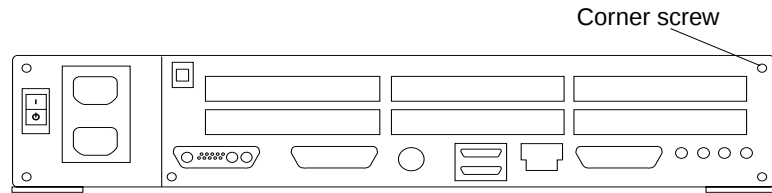

FIGURE 7-6 Back Panel Corner Screw
6. **Tighten the screw on the back panel corner and secure the cover (FIGURE 7-6).**